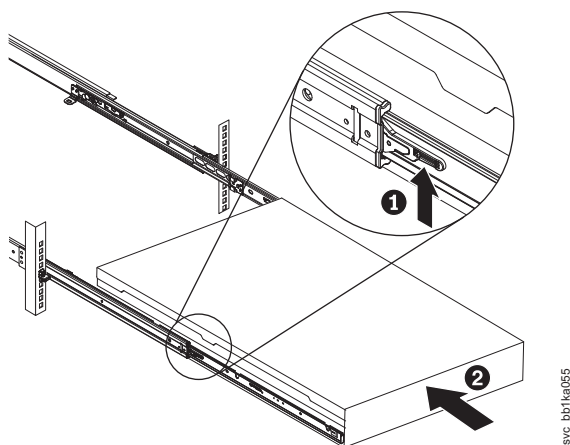

Figure 195. Raising the locking levers of the slide rails of the rack
10. Lift the locking levers (**1** in Figure 195) on the slide rails and push the node **2** all the way into the rack until it clicks into place.